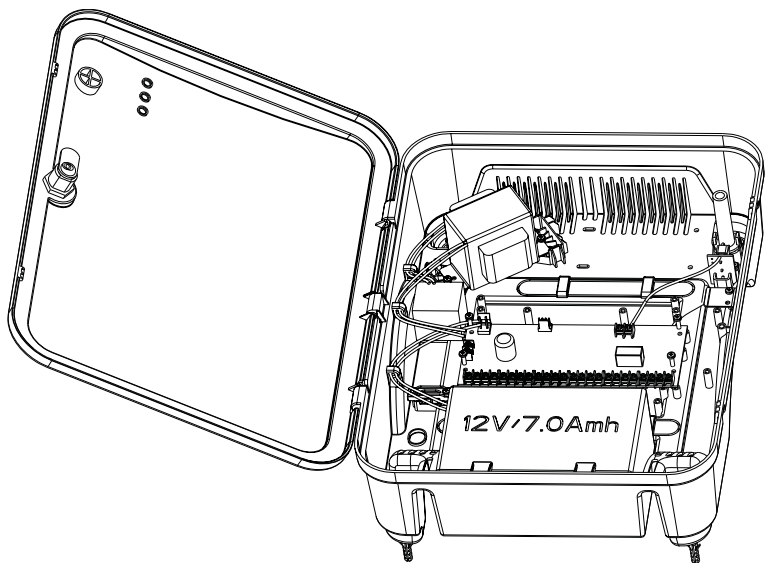

Figure 33: ME-12 Unit Mounting, In-Box Connections and wiring
5. Mount the MU or EU board in the enclosure using the spacers supplied and connect the in-box power and backup battery as shown in Figure 33, on page 43, make sure to run the wires through the specifically designed wiring ducts.